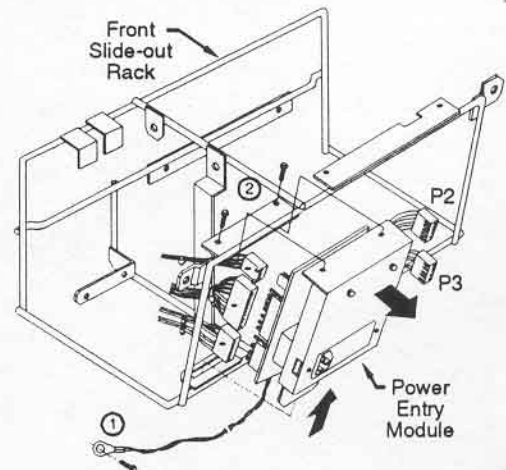

Figure 5-16. PEM Removal
- c) Follow the yellow/green grounding wire from the Power Entry Module to the grounding point on the projector chassis. See Figure 5-16. Disconnect the grounding wire.